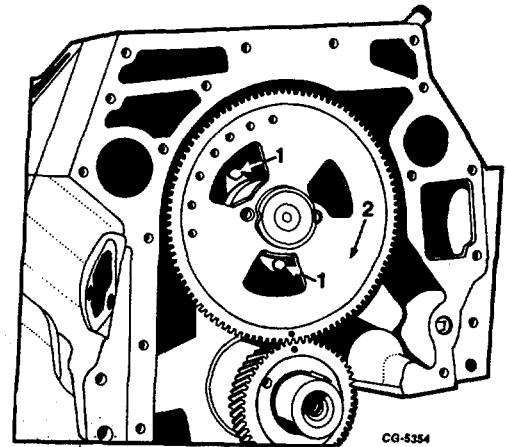

Fig. 61 Thrust Flange Bolt Removal
67. Remove the two bolts and lockwashers securing the camshaft thrust flange to the crankcase, Figure 61.